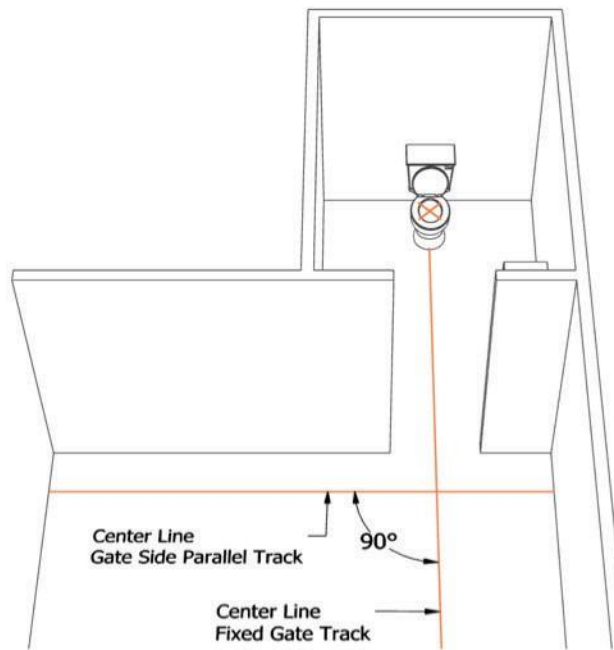

Figure 73: **Gate Side Parallel Track Center Line**
2. Define the center line for the gate side parallel track (Figure 73):